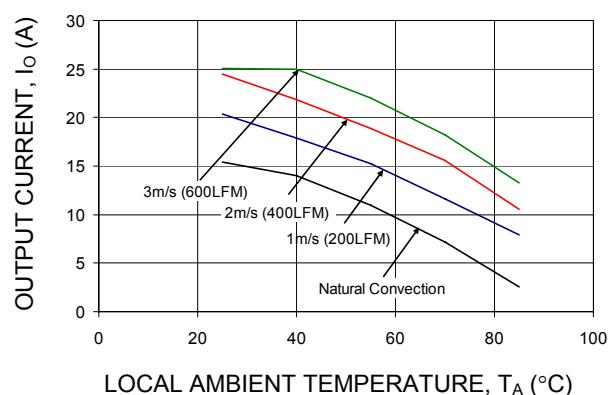

Figure 14. Output Current Derating for the QBK025A0B in the Transverse Orientation with no baseplate; Airflow Direction from Vin(+) to Vin(-); $Vin = 48V$.
Note that the natural convection condition was measured at 0.05 m/s to 0.1 m/s (10ft./min. to 20 ft./min.); however, systems in which these power modules may be used typically generate natural convection airflow rates of 0.3 m/s (60 ft./min.) due to other heat dissipating components in the system. The use of Figures 14 - 15 are shown in the following example:
Determine required airflow (V) (Use Figure 14):